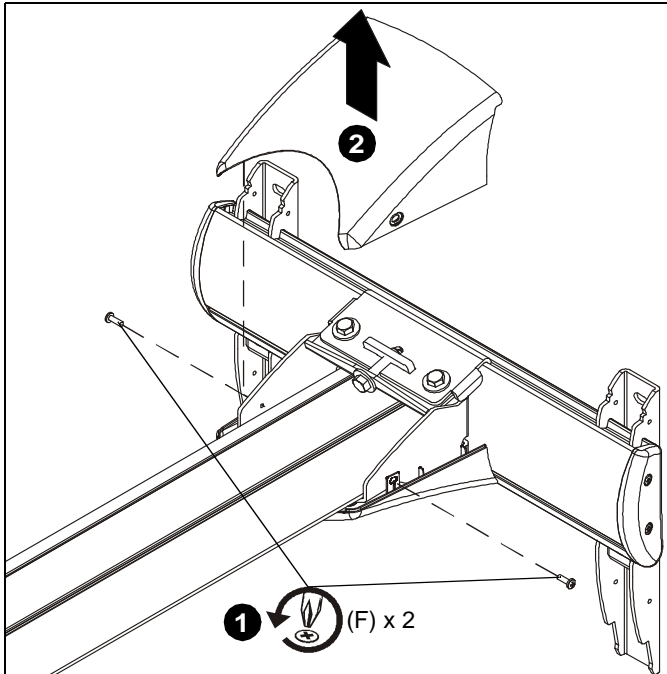

Figure 52
1. Remove and save two 8-32 x 1/2" Phillips pan head screws (F) from upper cover. (See Figure 52)
2. Raise upper cover away from the mount. (See Figure 52)